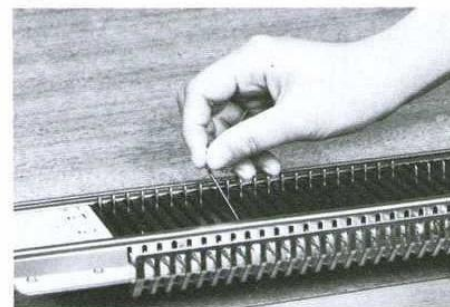

Fig.68
- (b) Bring the needle forward and, lift up by the needle butt and press down slightly on the needle hook so that the tail of the needle comes up through the slot. Push the needle back until the tail passes over the rear runner rail and the hook end comes out through the slot. (Fig.68)